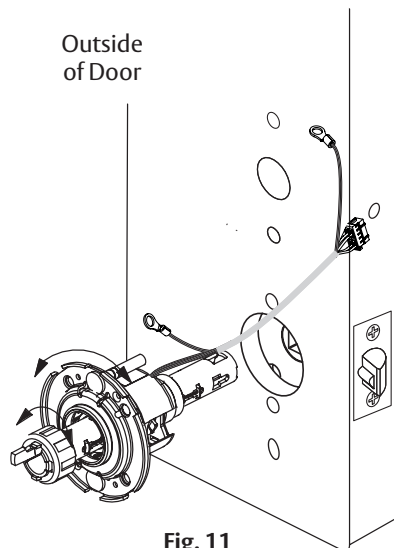

Fig. 11
- Rotate mounting plate to either align with through-bolt holes in door, or adjust for proper door thickness. (Fig. 11)
- Re-install spacer bushing to align with back of lever, scalp, and lever (Fig. 11)